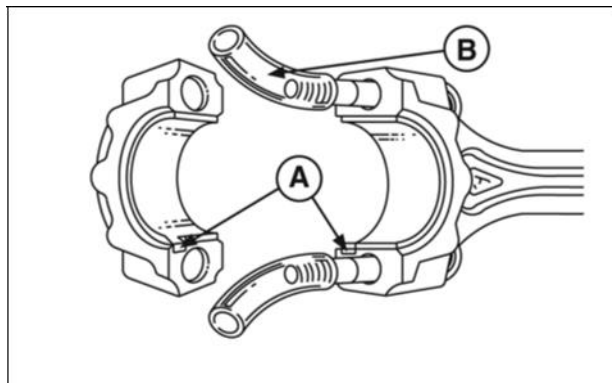

Figure 5
1. Install connecting rod bearings. Be sure tang on bearing is seated in notch (A, Figure 5) in connecting rod and cap.
2. Install a piece of vinyl tubing (B) over each connecting rod screw to prevent damage to screw threads or crankpin when installing piston and connecting rod.